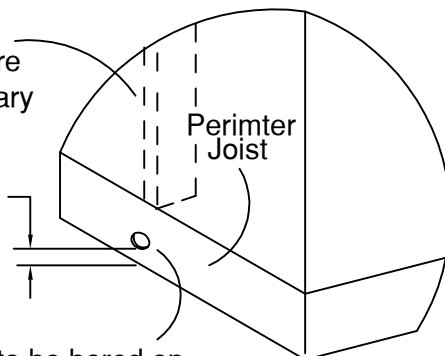

**Fig. 4.5A -
5. **If the home being set does not have a crane-ready floor system**, crane straps/cables should be placed as shown in Fig. 4.5. Cable holes may be drilled in perimeter joists 2" maximum from bottom of joists. (Refer to Fig. 4.5A). Providing such holes will prevent the straps or cables from being trapped between the sill plate and the floor system. The floor joists are not to be notched or cut. Insure that site bored holes in exterior rim joist occur below a wall stud or add a temporary stud above hole location. Mate line cable hole details are also shown on Fig 4.5A. (Once cable is removed and home is set, **mating rim joist** cable hole re-inforcement is required in accordance with Fig 4.5A)